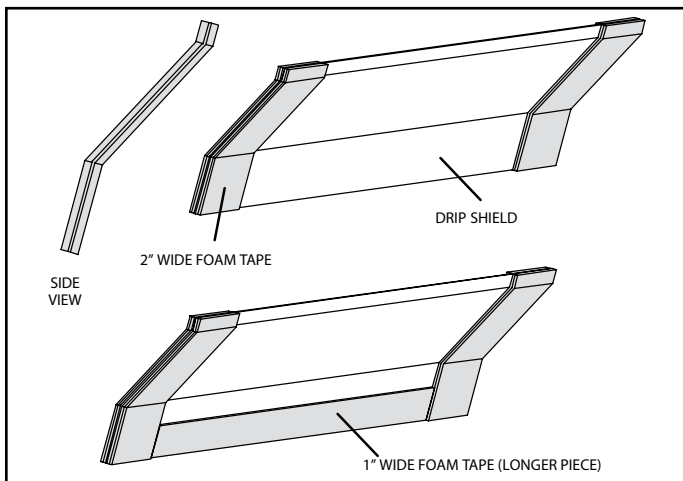

Figure 7. Applying Foam Tape to Drip Shield
4. Foam tape that is provided creates a seal between the drip shield and the coil so that water does not leak into the air stream. The foam tape pieces are precut. Apply the tape to the drip shields as illustrated in Figure 7 and specified as follows: